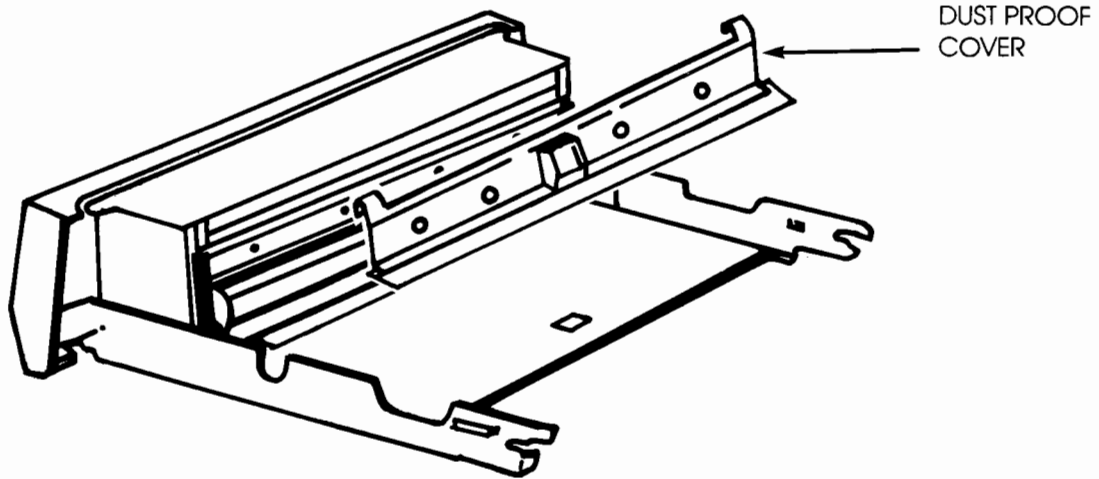

Figure 4-22. Removing Dust-Proof Cover
- h. Wipe the dust-proof cover with a dry cloth and place it back on the development unit (see figure 4-22).